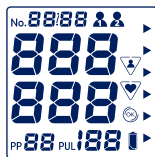

Figure 1
- Switch the device on using the Start/Stop button. The following display appears (Figure 1):